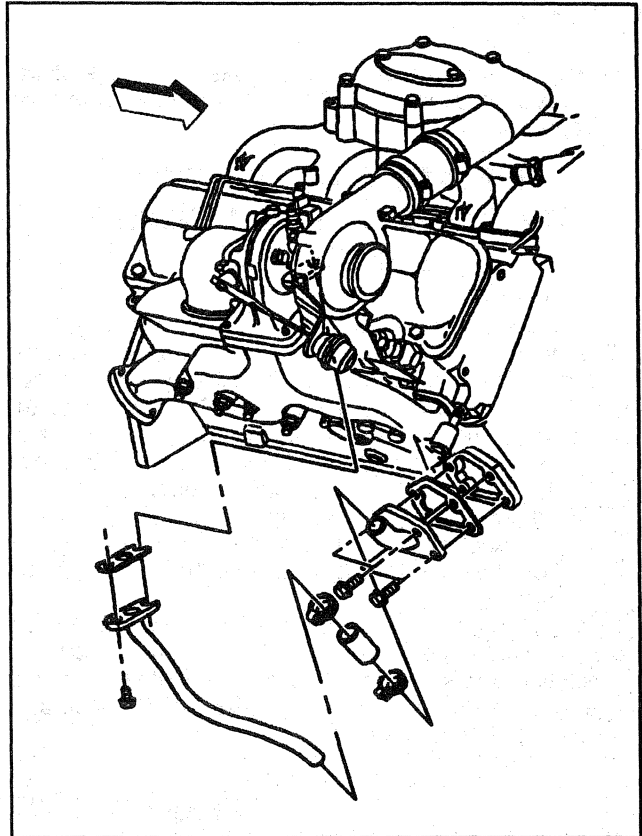

Figure 12—Oil Drain (Return) Tube
11. Oil feed hose and oil return pipe (Figure 12).
3. Gasket and the oil return pipe (Figure 12).